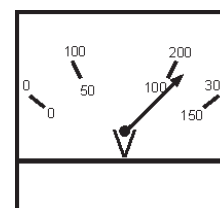

Figure 44. Voltage Meter (Volts)
11. The generator's voltage meter (Figure 44) displays the 120 VAC in VOLTS. If the voltage is not within the specified frequency tolerance, use the voltage adjustment control knob (Figure 45) to increase or decrease the desired voltage.